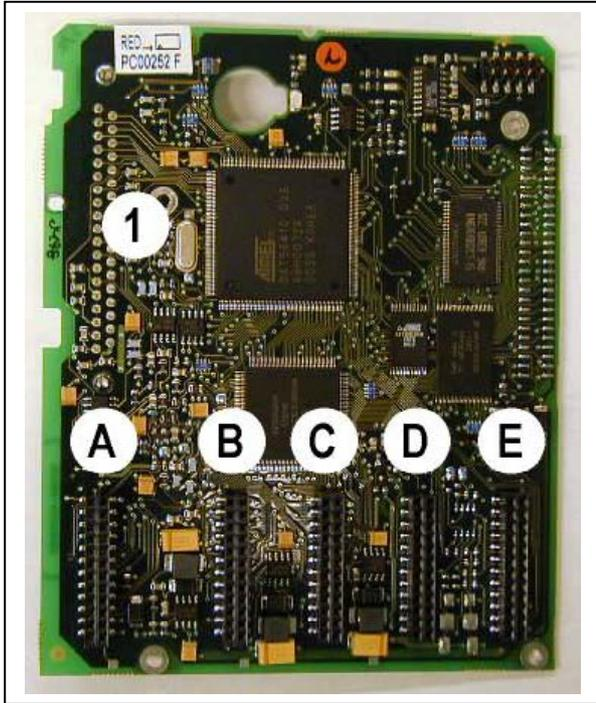

Figure 6-21. NX control board
The control unit of the frequency converter consists roughly of the control board and additional boards (see Figure 6-21 and Figure 6-22) connected to the five slot connectors (A to E) of the control board. The control board is connected to the power unit through a D-connector (1) or fibre optic cables (FR9).